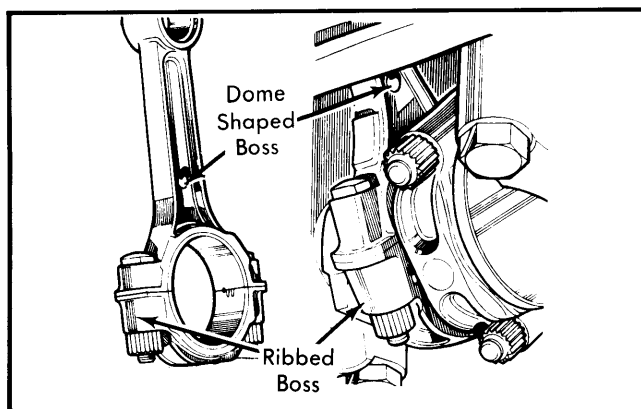

Fig. 4 Connecting Rod Positioning Marks
2) Insert connecting rod and piston assembly into its respective bore. Dome-shaped bosses on connecting rods must face toward front of engine for right-hand bank of cylinders and toward rear of engine for left-hand bank. See Fig. 4. When connecting rods are installed, dome-shaped bosses will face each other.
5) Install bearing lower shell into its connecting rod cap. Position cap and shell on its respective connecting rod, making sure ribbed edge of cap is toward front of engine on right-hand bank of cylinders and toward rear of engine on left-hand bank. See Fig. 4. Tighten connecting rod cap. Check for proper end play and free movement on crankshaft.